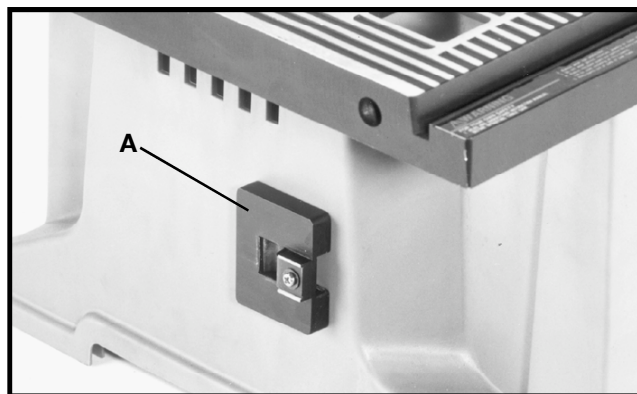
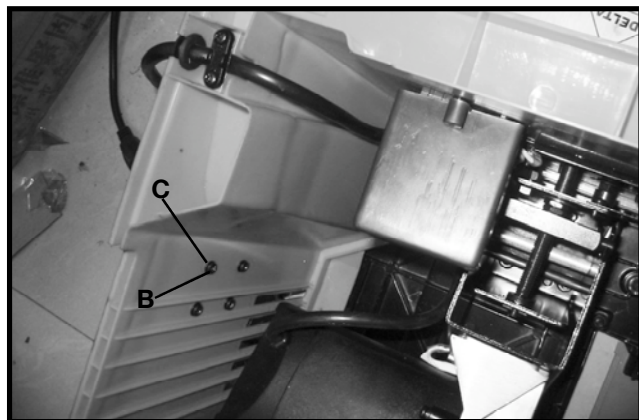

Fig. 26
Fig. 27
2. Assemble the miter gage holder (A) Fig. 26, to the left side of the saw cabinet using the four M4.2x10mm pan head screws (B) Fig. 27, and 3/16" washers (C) from inside saw cabinet.